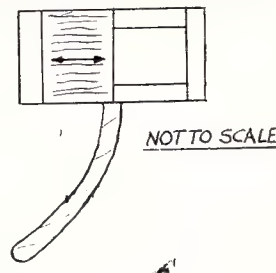

FIG 4
7. I measured a prototype truck-to-truck distance and found it to be 2'9". The wagons fitted with Kadee couplers, as outlined in this article, will couple up at a scale distance of 3' approximately (approx. 12 m.m. apart). A very light touch will make these couplers lock together and they will act even better if the knuckle faces are polished with fine emery cloth, as shown in figure 4.
Always polish as shown in figure 4 across the coupler, not up and down. If you polish in an up and down motion the minute ridges so formed will catch and the coupler will not work quite so easily.